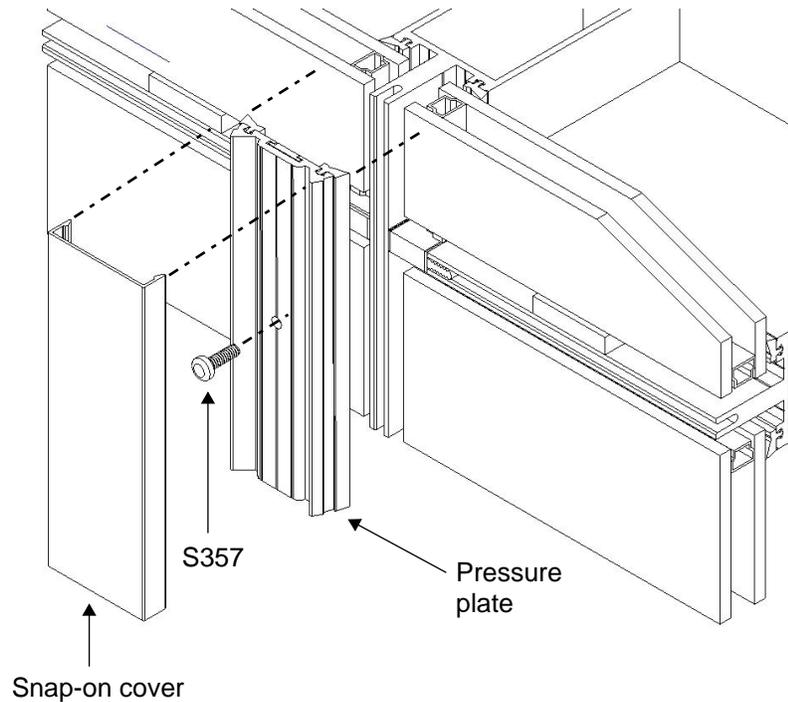

Figure 22: Place the vertical pressure plate and snap-on cover.
- Fasten the vertical pressure plate to the mullion as shown in Figure 22 with an S357 fastener and glazing gaskets (PTB28).
- Install the vertical snap-on cover as shown in Figure 22.